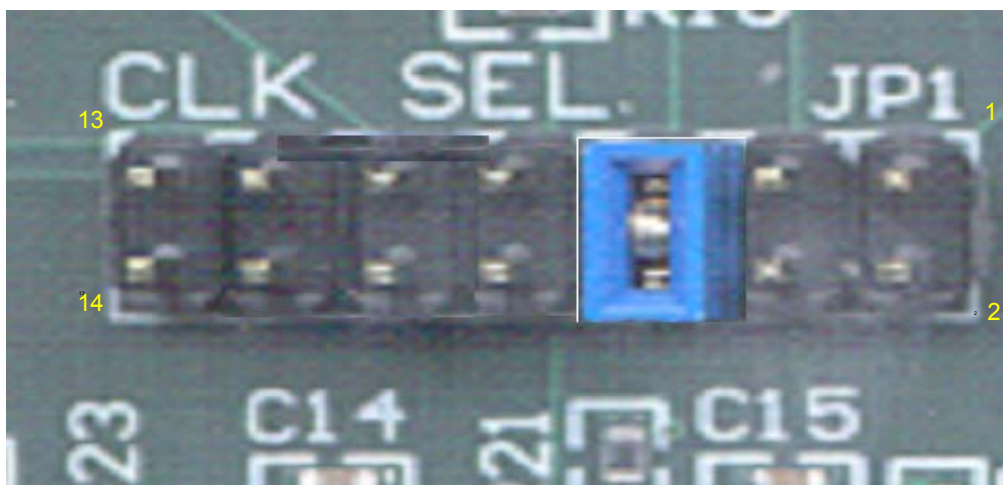
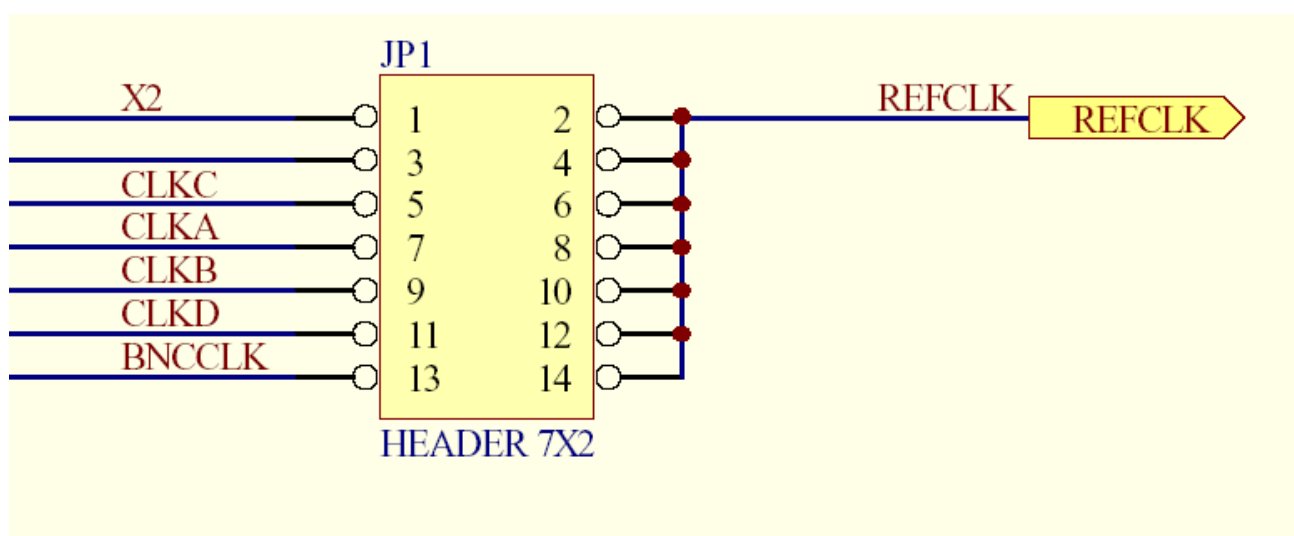

Figure 5-2. CLK SEL (JP1) Close View
Figure 5-3. CLK SEL (JP1) Block Diagram
An external clock can also be supplied, through an SMA (J5 on board) or BNC (J9 on board) connector. Depending on whether an internal or external clock is used, the jumper settings on the CLK SEL jumper (JP1) on board have to be changed (a close view and description of the CLK SEL pins and jumper settings are shown in *Figure 5-2*, *Figure 5-3*, and *Table 5-1*).
- The details regarding the connections to be made on the board for each test are specified in the “Notes” box of the test window. Follow the “Notes” box to configure the board for that test. A CLK SEL header, JP1 on board and a jumper are provided to select between different clocking options. The position of the jumper determines which clock is used as the REFCLK for the HOTLink II transceiver (a close view of the header pins and the pin descriptions are given in *Figure 5-2*, *Figure 5-3* and *Table 5-1*). The appropriate clock frequencies can be selected from the speed menu on the GUI test window.